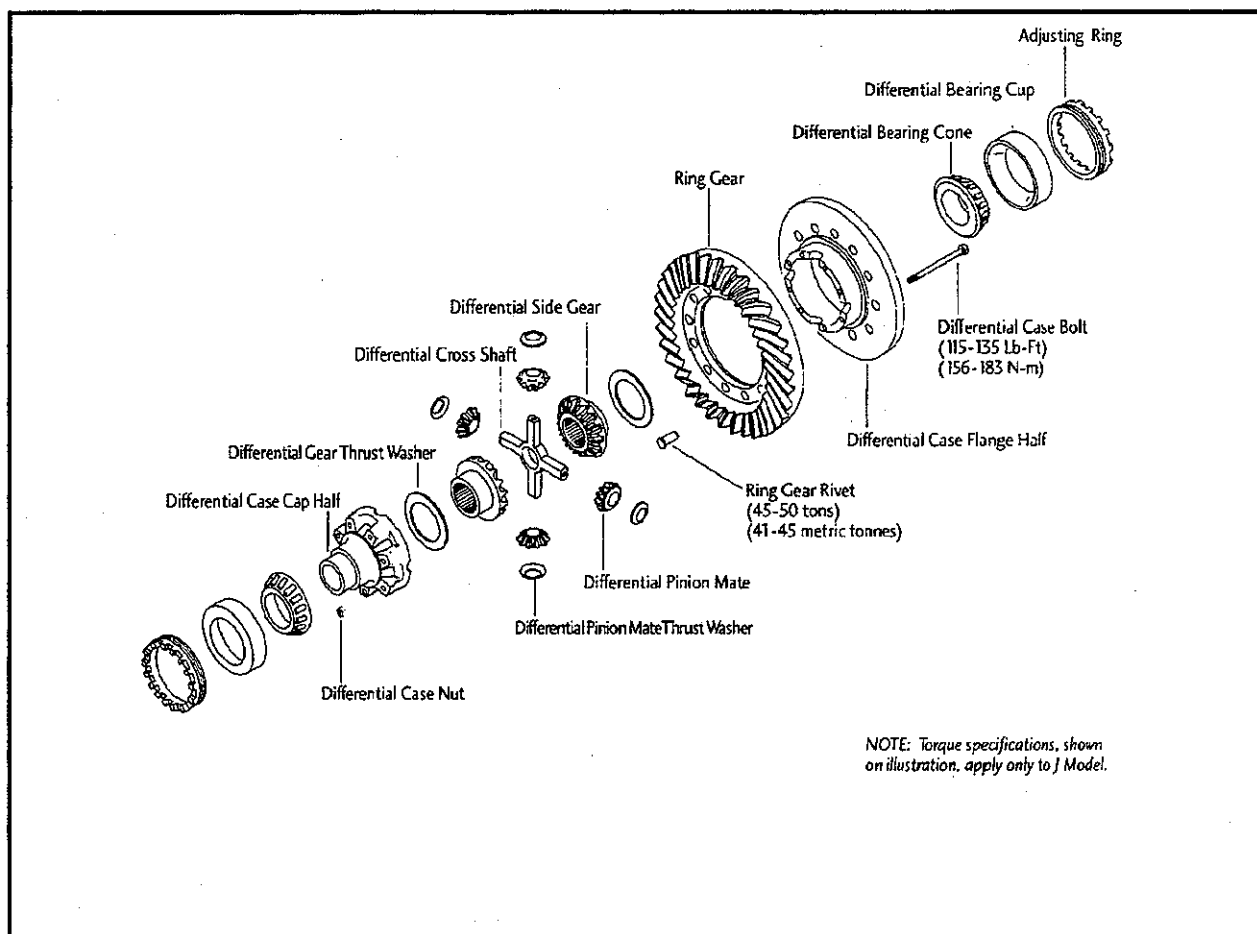

Figure 9—Differential Assembly
20. Remove the differential case bolts and lift off differential case cap half. (See Figure 9—Differential Assembly.)